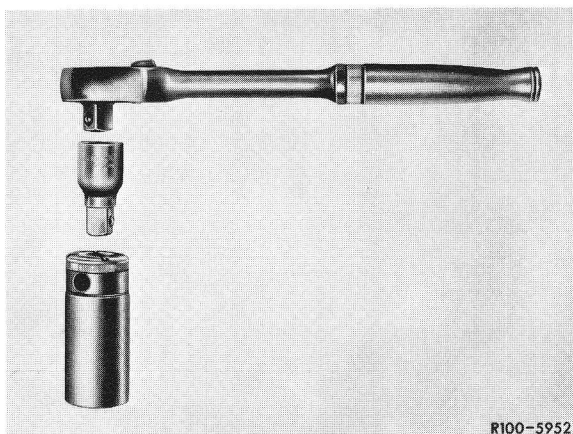

Fig. 1
- 4 Set piston of 1st cylinder to ignition TDC, removing the cover on the pulley and cranking the engine with the tool combination shown in Fig. 1.